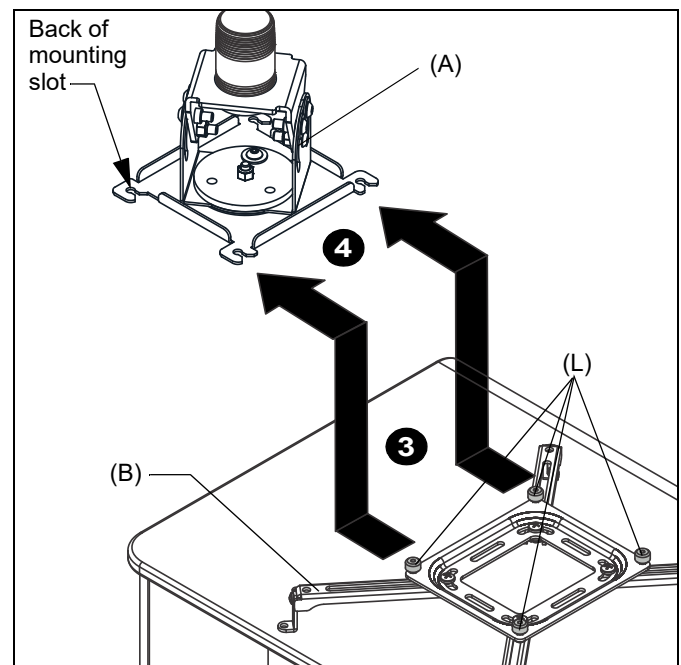

Figure 8
2. Orient projector with attached interface bracket (B) with VPAU (A). (See Figure 8)
3. Lift projector so that screws with thumb nuts (L) are aligned with mounting slots in projector mount.